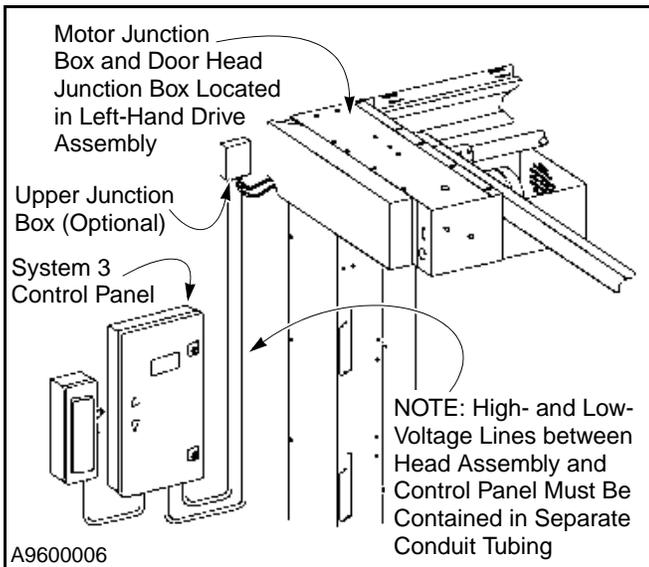

Figure 17
- Remove the cover from the upper junction box located near the left side column. (See Figure 17.)